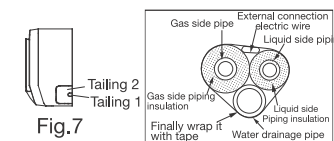

Fig.7
- When routing the piping and wiring from the left or right side of indoor unit, it is necessary to cut off the tailings from the chassis(Shown in Fig.7)